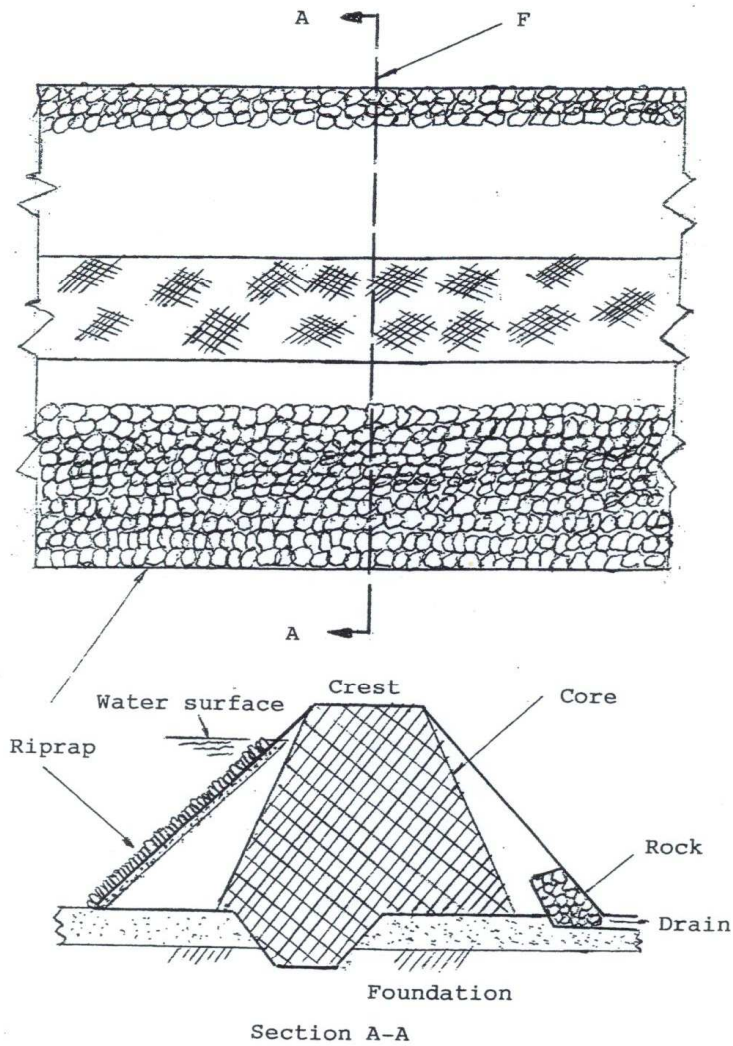

Figure 4. Sectional view of plan for an earth dam
* Cutting plane line is shown in Figure 4.
Figure 4 provides an example of a section view, which is the result of an imaginary cut. A "cutting plan line" is composed of thick, long dashes of equal length. This line cut through to show the cross section of a small earth dam. The cross section is identified by the letters A-A. The two arrows indicate the direction in which the section is taken.
A cross section is to show the details of the interior portion. As shown in Figure 4, this section provides a detailed view of an earth dam. It shows the crest, the core, the trench, the foundation, the embankments, and the seepage drain of the earth dam..